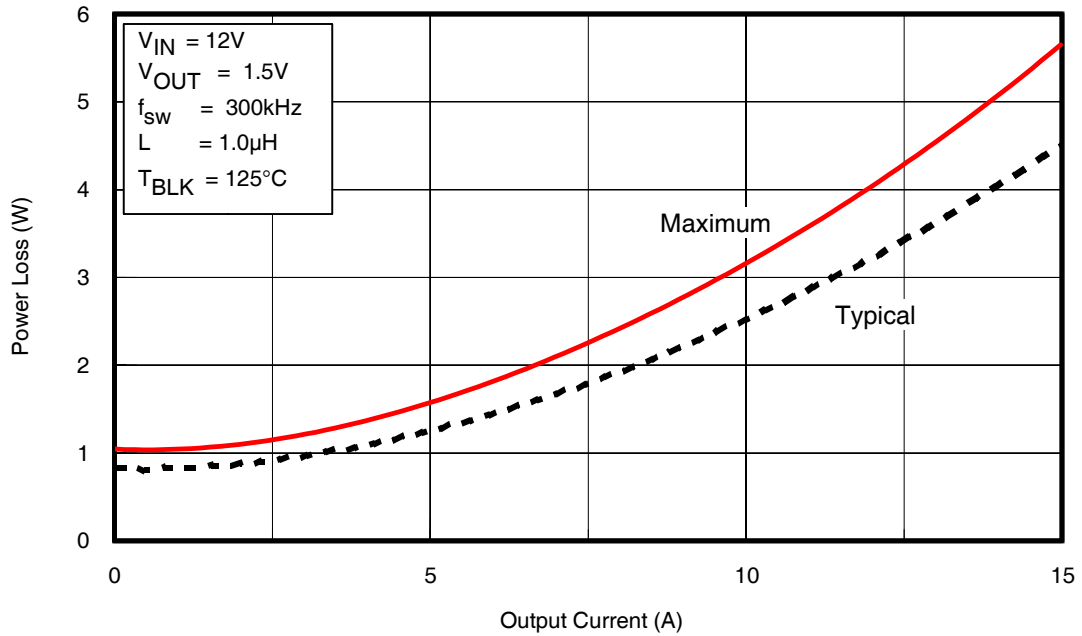
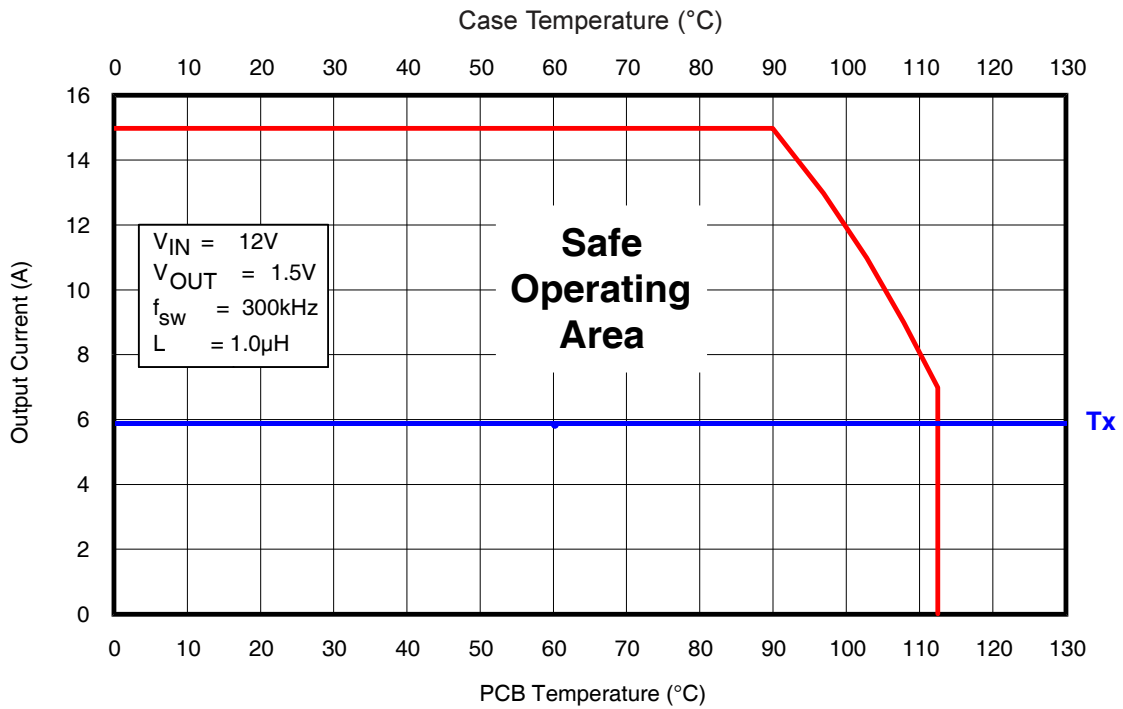
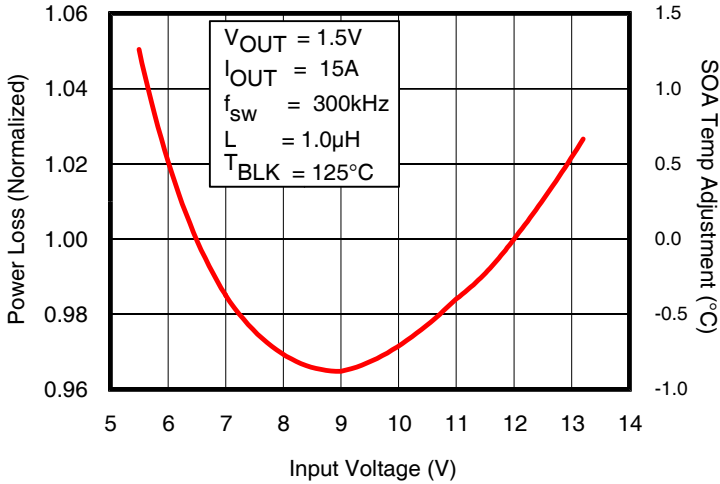

Fig. 2: Power Loss vs. Current
Fig. 3: Safe Operating Area (SOA) vs. T_{PCB} & T_{CASE}
Fig. 4: Normalized Power Loss vs. V_{IN}
To make adjustments to the power loss curves in Fig. 2, multiply the normalized value obtained from the curves in Figs. 4, 5, 6 or 7 by the value indicated on the power loss curve in Fig. 2. Then if multiple adjustments are required, multiply all of the normalized values together, then multiply that product by the value indicated on the power loss curve in Fig. 2. The resulting product is the final power loss based on all factors. See example no. 1.
To make adjustments to the SOA curve in Fig. 3, determine your maximum PCB Temp & Case Temp at the maximum operating current of each iP1203PbF. Then, add the correction temperature from the normalized curves in Figs. 4, 5, 6 or 7 to the T_X axis intercept (see procedure no. 2 above) in Fig. 3. When multiple adjustments are required, add all of the temperatures together, then add the sum to the T_X axis intercept in Fig. 3. See example no. 2.
- (Fig. 2) Maximum power loss = 4.1W
- (Fig. 4) Normalized power loss for input voltage \approx 1.025
- Output1 (Fig. 4) Normalized SOA Temperature for input voltage $\approx +0.7^{\circ}C$